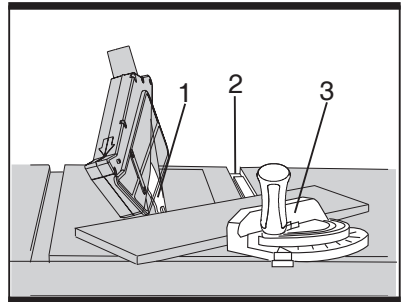

Fig 22
- 1) Set the mitre gauge (3) to the desired angle.
- 2) Place the mitre gauge (3) in the right side groove (2) of the table.
- 3) Set the blade (1) bevel to the desired bevel angle and tighten the blade bevel lock knob.
- 4) Hold workpiece firmly against the face of the mitre gauge (3) throughout the cutting operation (See fig. 22).